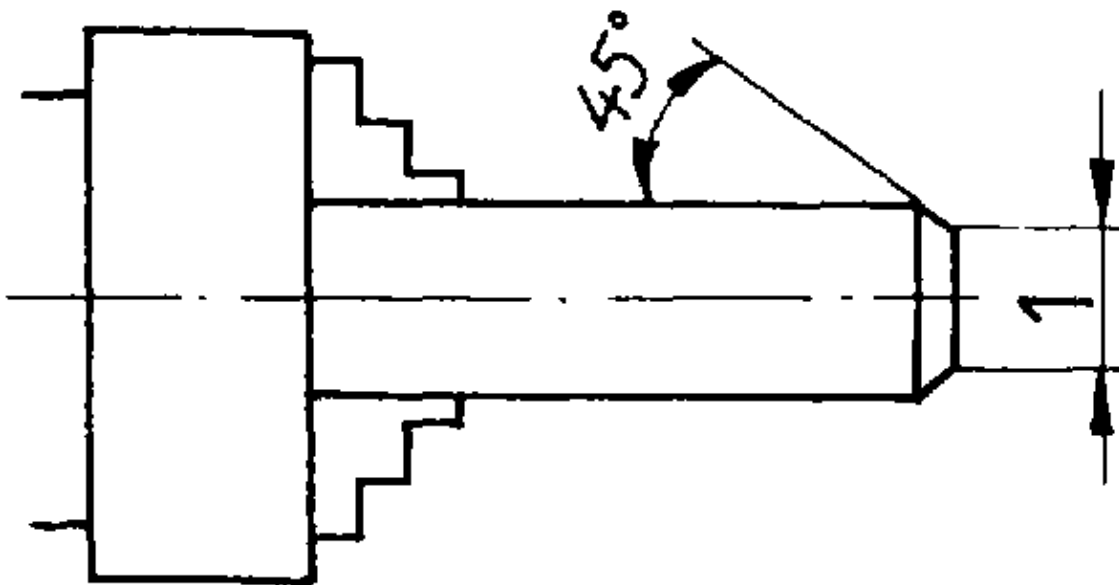

Figure 12. Deburring the workpiece
- The expanding screw must mesh into the slot of the die. The expanding screw opens the die whilst the adjusting screw closes it (see Fig. 12).